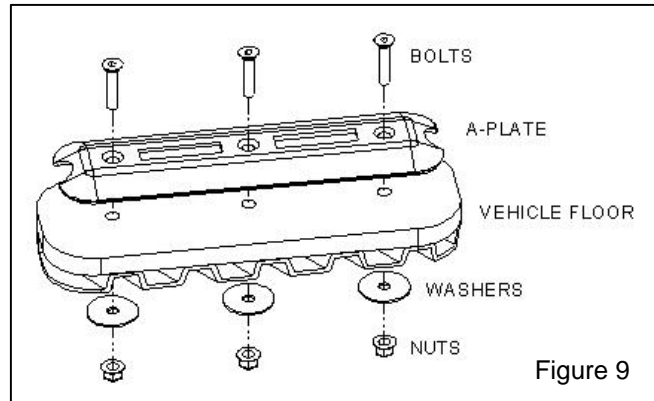

Figure 9
2. Use plate as a template to mark three (3) center holes to be drilled.
3. Remove plate and drill three (3) 5/16" (8mm) holes through floor.
6. Securely fasten the bolts and lock nuts as shown in Figure 9, ensuring at least 2 – 3 threads are sticking out. **Recommended torque = 35 FT/LB (47 N.m.).**